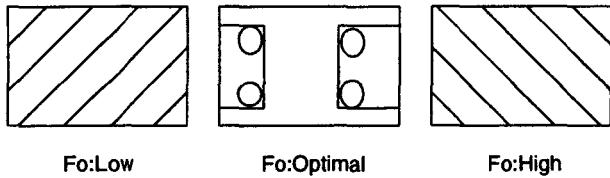

Fig.5-2
5. Adjust [60 H-FREQ] so that the slanting lines on the screen will be vertical. (Fig.5-2)
7. Adjust [50 H-FREQ] so that the slanting lines on the screen will be vertical. (Fig.5-2)